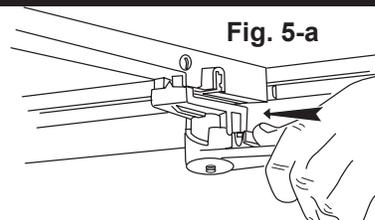

Fig. 5-a
3. Secure the clamp to the cargo rail by pulling the handle rearward (Fig. 5-a).
1. There are locking features on front clamps only. With the handle engaged (clamped position), push the locking tab on the handle to engage lock. See Fig. 5-a.